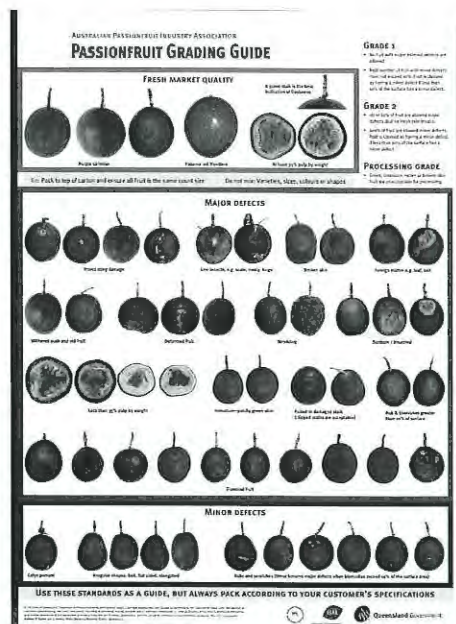

Figure 17.3 The passionfruit grading guide poster
The passionfruit grading guide poster (see Figure 17.3) is a 60 × 84 centimetre poster that shows colour photographs of examples of 'minor' and 'major' defects of passionfruit. It is designed to be used as a handy reference, and is printed on waterproof paper suitable for use in the packing shed. Using this poster will help growers and agents achieve a standard, quality product in the marketplace. The poster can be obtained free of charge from DEEDI's Maroochy Research Station by calling (07) 5453 5800 or faxing (07) 5453 5901.